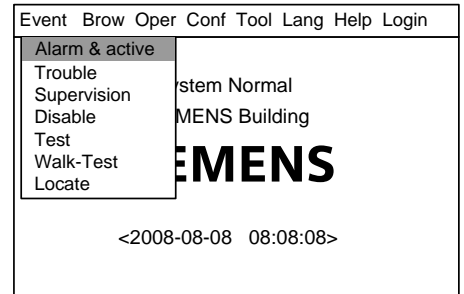

Fig.26-1
1. Press "Menu" to browse the main menu (Fig. 26-1)